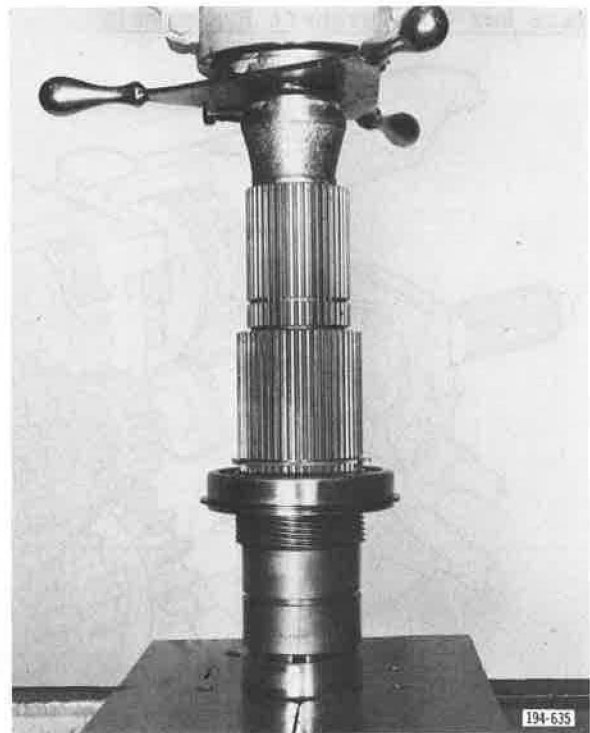

Figure 286. Pressing Race onto Mainshaft
3. Press rear bearing cover bearing inner race onto rear mainshaft. See Figure 286.